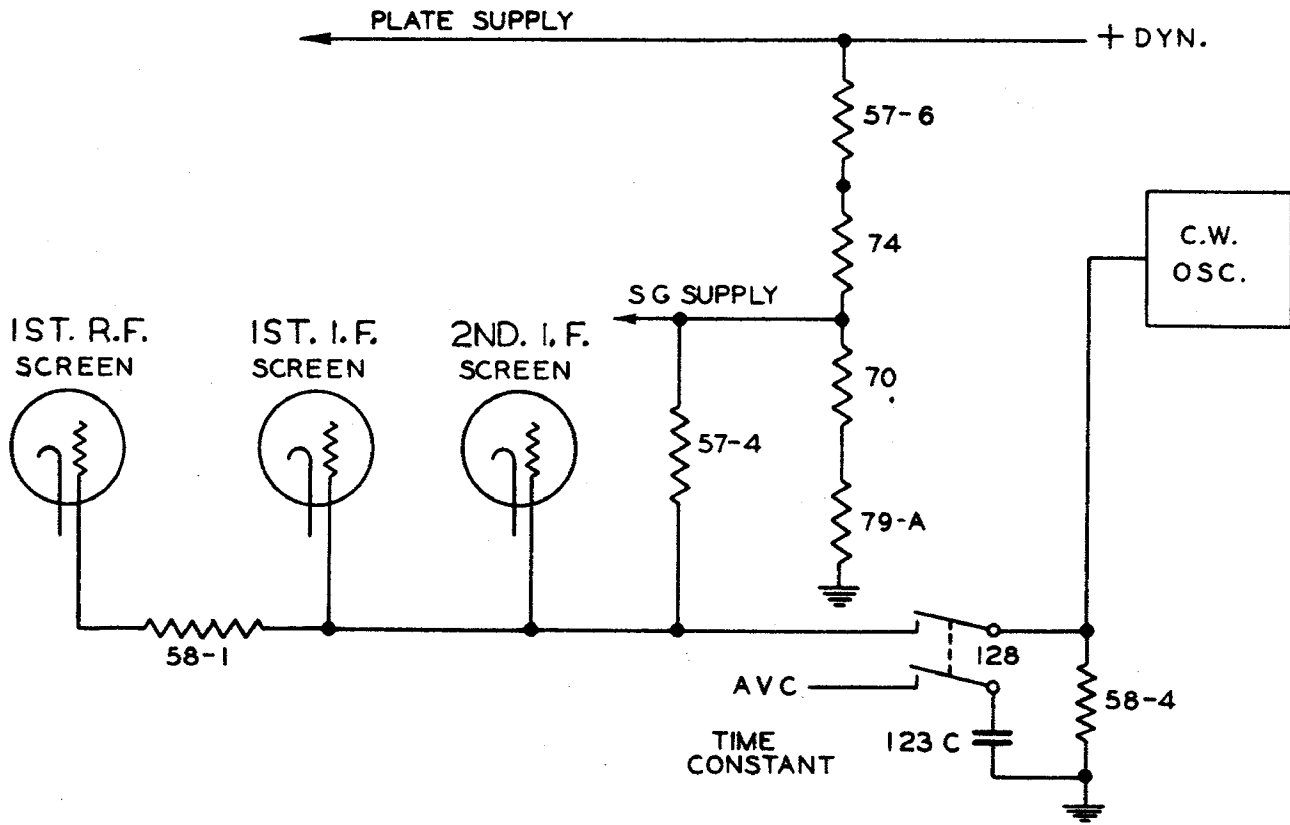

Figure 4-2. C-W Oscillator Switching, Simplified Diagram
(2) The C.W. OSC. switch 128 in the ON position supplies the oscillator plate voltage and increases the a-v-c time constant by connecting the additional capacitor 123-C. Switch 128 supplies the oscillator plate voltage by connection to the screen grids of the first and second i-f and first r-f tubes. The same switching connects the loading resistor 58-4. This drops the screen voltage to the first and second i-f and first r-f tubes to a value that reduces the sensitivity sufficiently to keep the overall set noise essentially constant. This arrangement for supplying the c-w oscillator has added advantages which are not obvious. For sufficient oscillator excitation to handle high detector levels, encountered with a-v-c delay operation and strong signal inputs (while still keeping the no-signal c-w excitation below the a-v-c level,) the c-w oscillator output should increase as a strong signal input raises the a-v-c bias. This circuit arrangement, Figure 4-2, accomplishes this result, since with switch 129 in the a-v-c position, resistors 57-6, 74, 70, and 79-A form a fixed bleeder supplying the screen grid voltage to r-f, first detector and i-f tubes. A strong input signal building up the a-v-c bias causes a considerable decrease in screen current and hence an increase in the screen supply voltage. This increases the voltage supplied to the c-w oscillator, and hence the excitation increases in proportion to signal level at the detector.